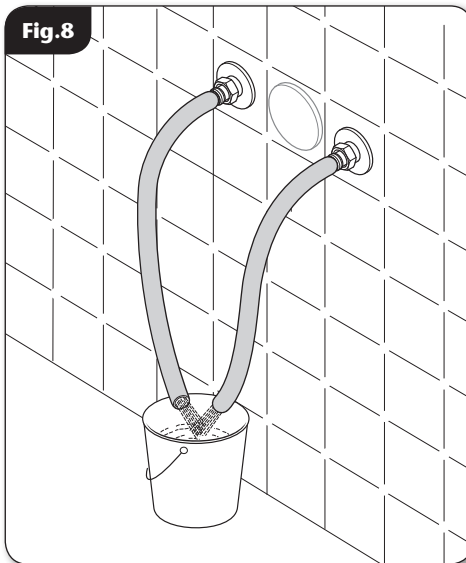

Fig. 8
**Make sure that all the supply pipework has been flushed through before fitting the mixer (fig. 8).**